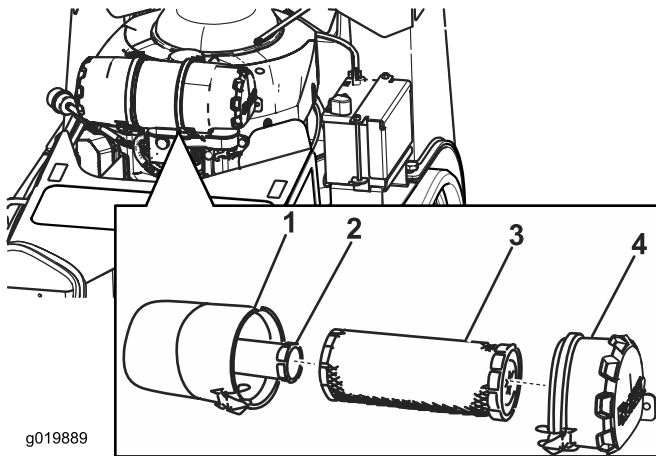

Figure 29
2. Release the latches on the air cleaner and pull the air cleaner cover off the air cleaner body (Figure 29).
4. Gently slide the primary filter out of the air cleaner body (Figure 29).
2. If the inner filter is being replaced, carefully slide it into the filter body (Figure 29).
3. Carefully slide the primary filter over the inner filter (Figure 29).
4. Slide the cover onto the air cleaner body and secure it with the latches (Figure 29).